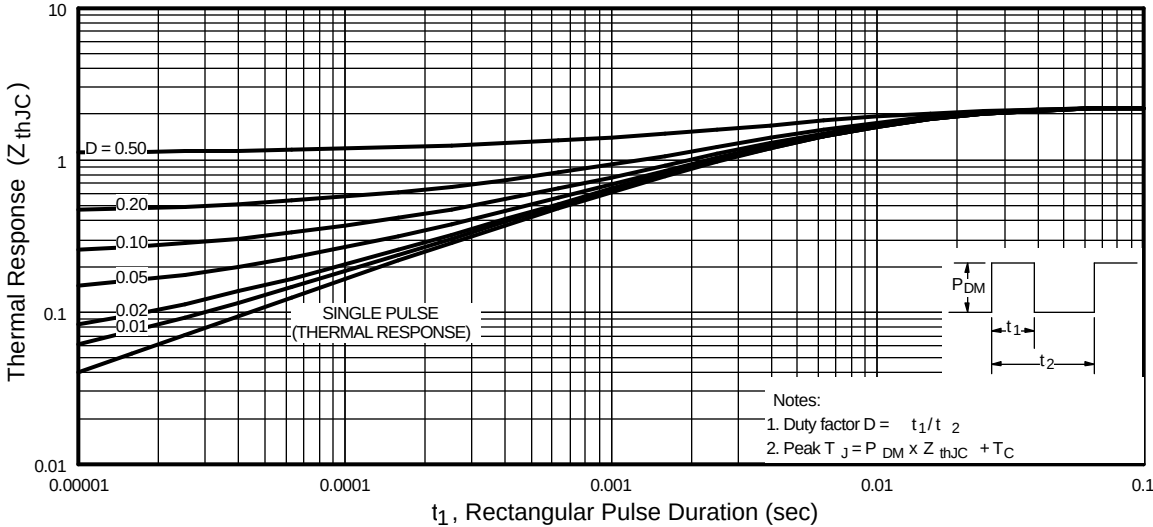

Fig 11. Maximum Effective Transient Thermal Impedance, Junction-to-Case
① Repetitive rating; pulse width limited by max. junction temperature. (See fig. 11)
④ Pulse width $\leq 300\mu s$; duty cycle $\leq 2\%$.
② Starting $T_J = 25^\circ\text{C}$, $L = 3.6mH$